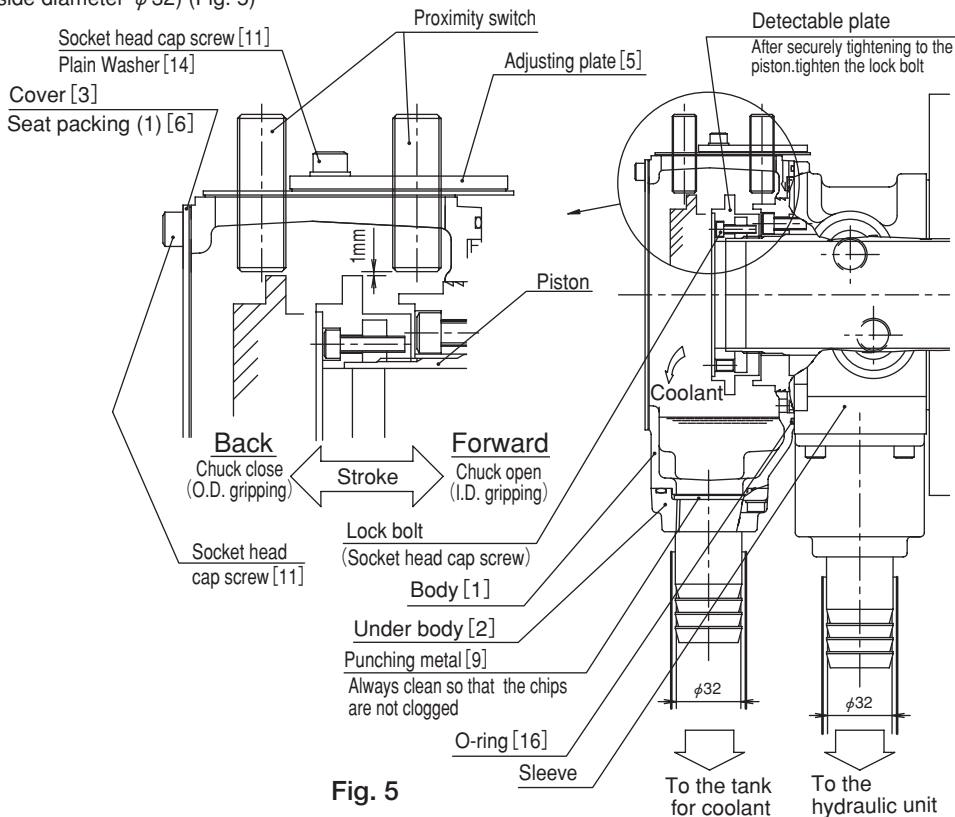

Fig. 5
- To easily collect the coolant flowing into the coolant collector, provide appropriate slope to the piping, so that the coolant does not stagnate inside the hose. To check the flow, use a transparent vinyl hose. (Inside diameter $\phi 32$) (Fig. 5)
Read following instruction when you adjust the proximity switch. (Fig.5)
- If the coolant overflows from the coolant collector, the coolant is flows to the sleeve side. Always clean the punching metal [9] so that the coolant does not stagnate inside the coolant collector. Be sure the chips are not clogged. (Fig. 5) Loose the socket head cap screw [13] when you remove the under body [2]. (Refer to page 19)